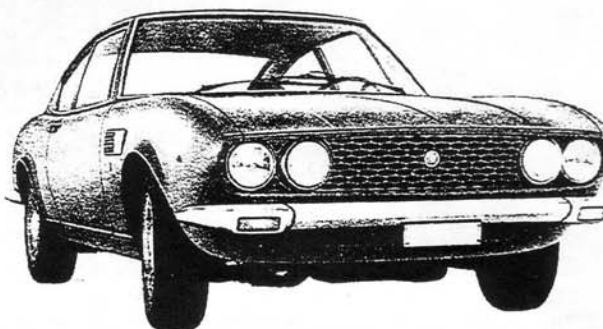

Fig. 140. - Front view of car.
- Front parking and direction signal lamps: embedded in bumper (fig. 140).